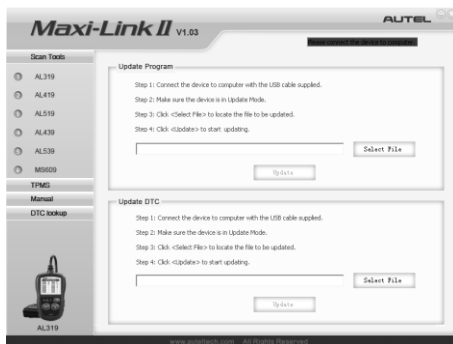

Figure 3.11
- 2) Run the MaxiLinkII Tool Kit in your computer. (Figure 3.11)
- 5) Select the programs to be updated in your computer. There are two types of programs: operating system and DTC library. (Figure 3.11)